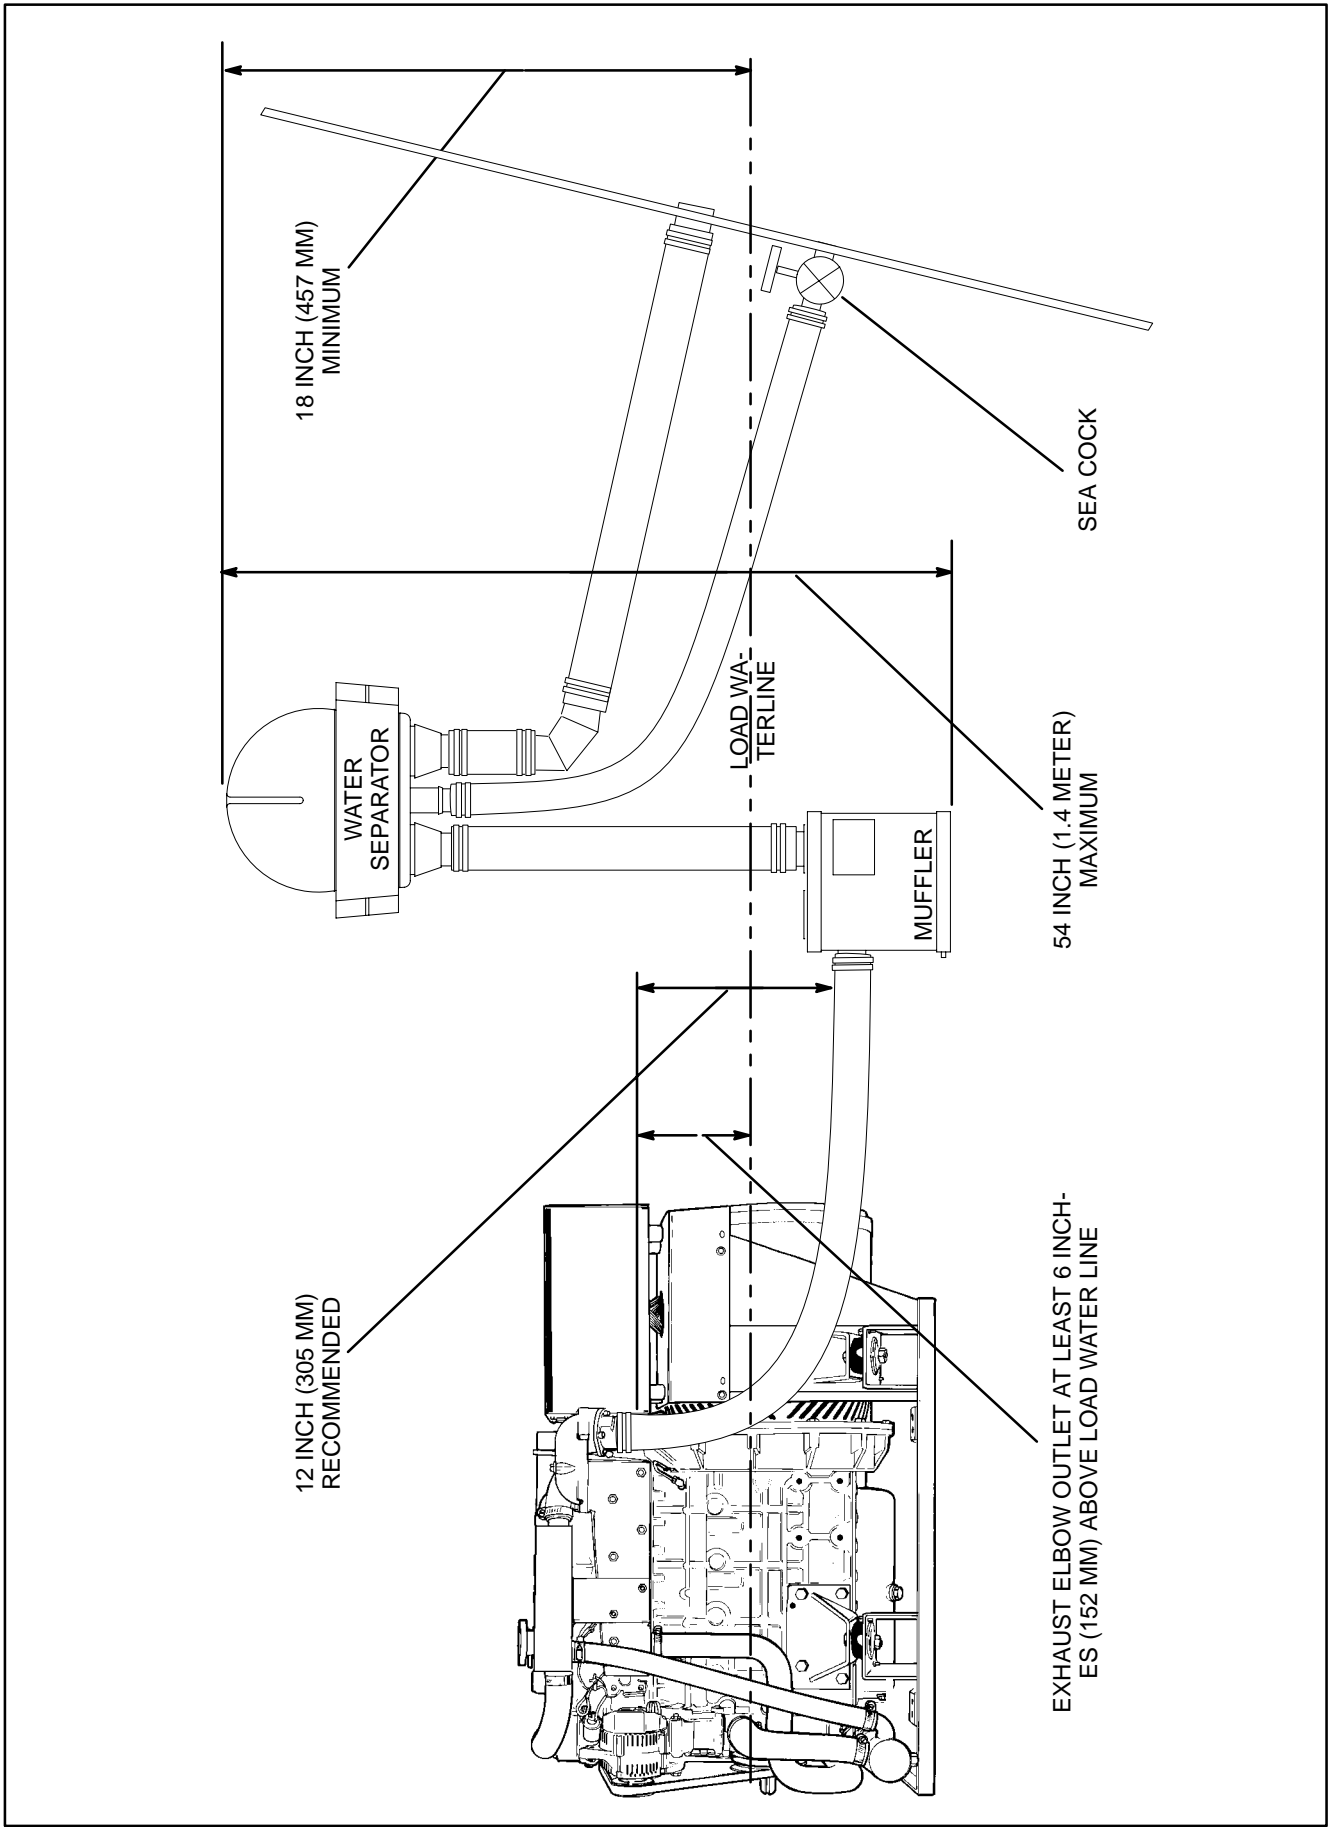
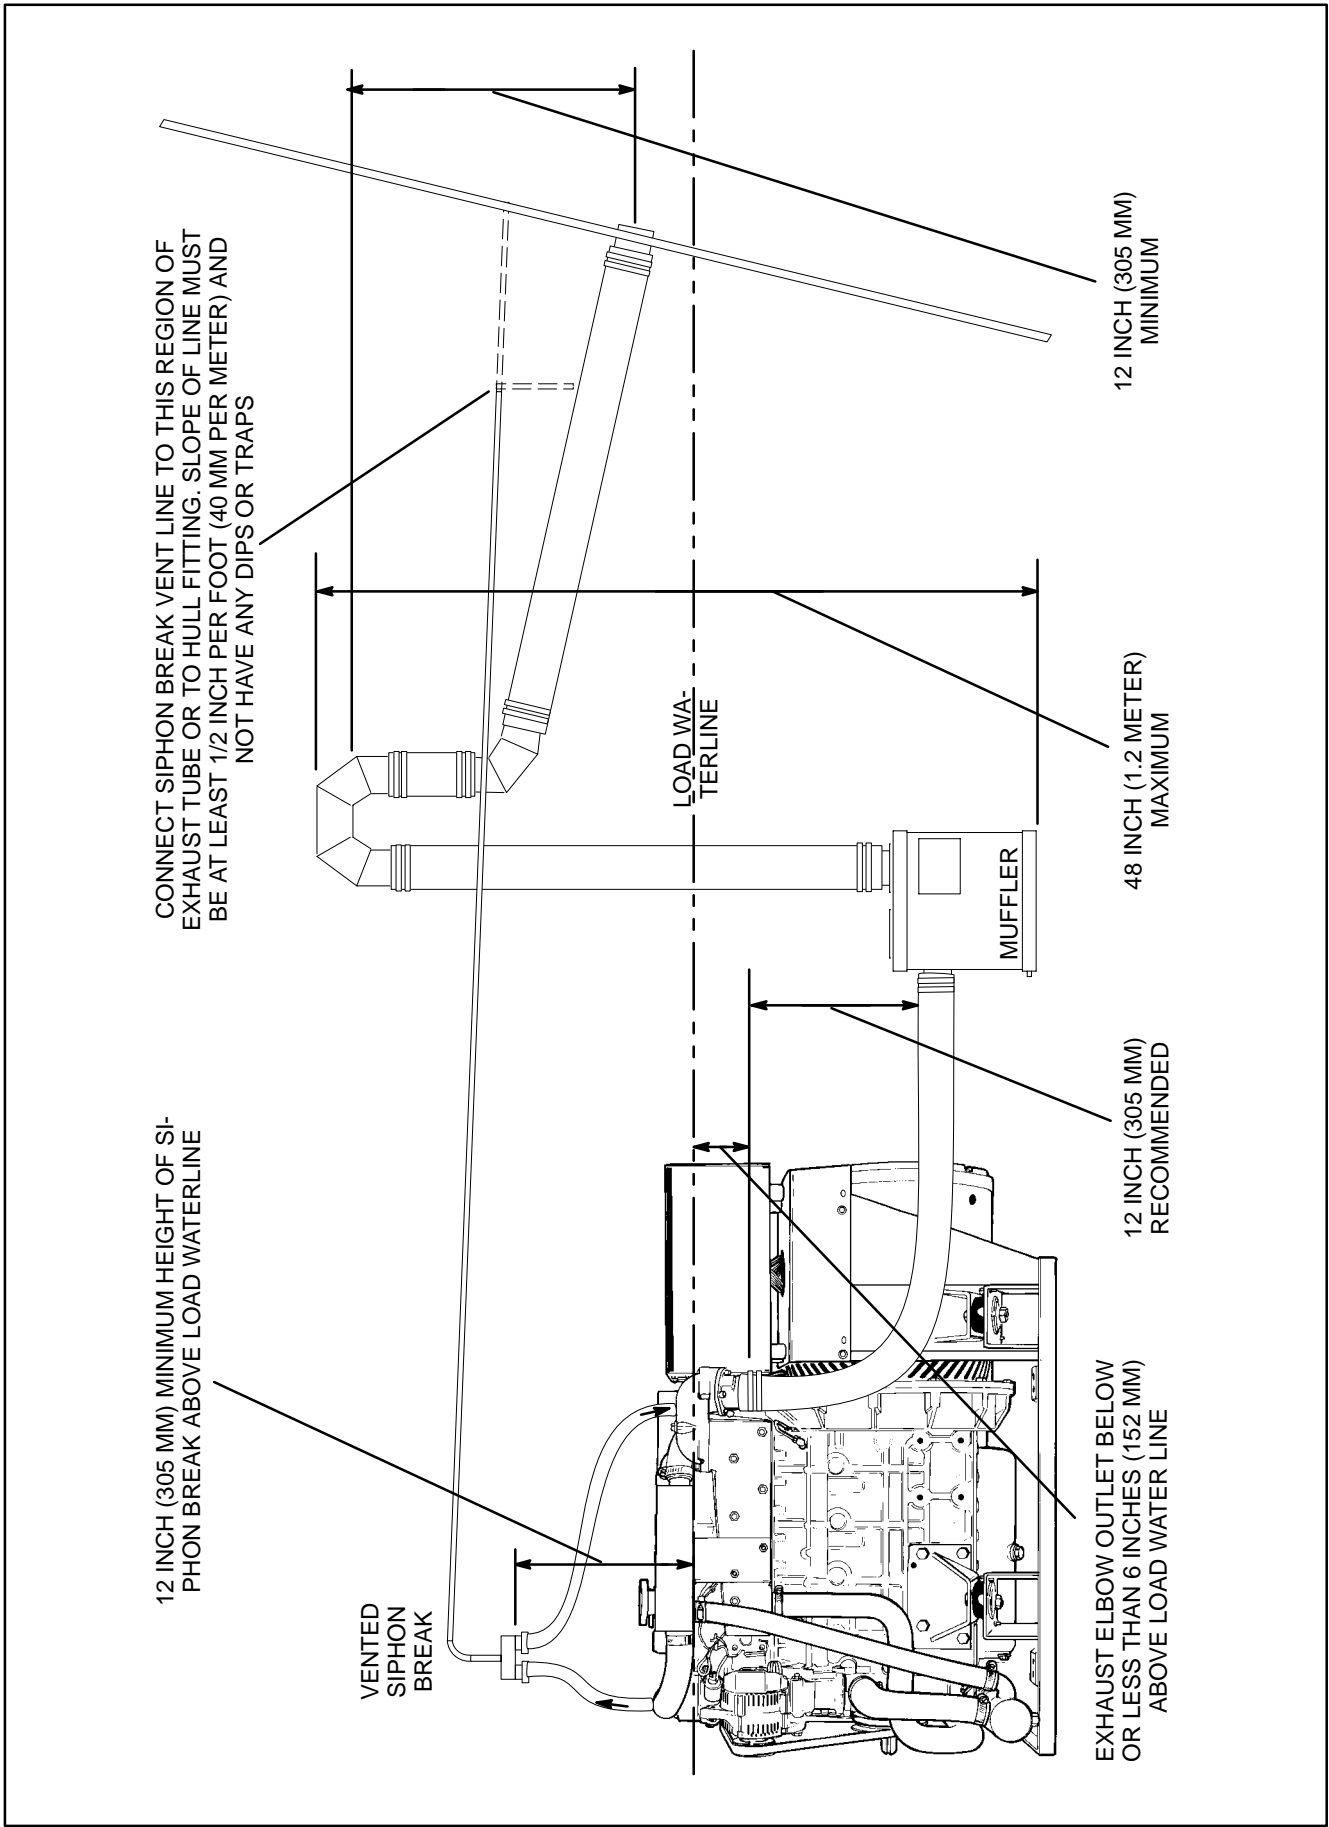

FIGURE 10. TYPICAL INSTALLATION ABOVE LOAD WATERLINE—WITH A WATER SEPARATOR
FIGURE 12. TYPICAL INSTALLATION BELOW LOAD WATERLINE—WITH A VENTED-TYPE SIPHON BREAK, WITHOUT A WATER SEPARATOR
Figure 10 illustrates a typical exhaust system where the engine exhaust elbow is above the load water line and Figures 1 and 12 where it is below. See *Engine Cooling* regarding sea water connections. The installation must comply with applicable standards and regulations, including ABYC, NFPA and USCG (p. 7).
Hose Material and Routing: Use hose that has been approved for wet exhaust systems. Except where hose rises from the muffler to a water separator (Figures 10 and 1) or crest (Figure 12), hose must slope down at least 1/2 inch per foot (42 mm/meter) and be supported such that there are no sags. *The entire run of hose must be accessible for regular, visual inspections and replacement.* The ends of the sound shield have exhaust hose exits with grommets. A kit is available for front exhaust exit.
ure 12). If a water separator is used (Figures 10 and 1), the top of the water separator must be at least 18 inches (450 mm) above the load water line.
- The base of the muffler will not be more than 54 inches (1.4 meter) below the water separator (Figures 10 and 1) or 48 inches (1.2 meter) below the highest point in the piping (Figure 12).
When a water separator (Figures 10 and 1) is used, the muffler outlet and water separator inlet diameters must be the same size. The hull fitting for the water drain hose should be below the water line and have a sea cock.